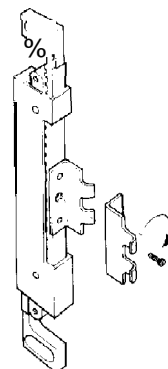

Fig 2a
10.3.2 Bead Preparation (Fig 2a)